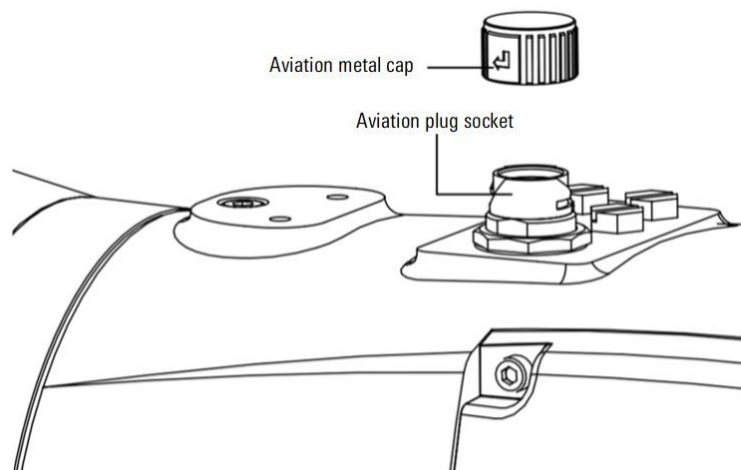

Figure 1-2 Step 1 diagram
- Step1. Please refer to Figure 1-2. Unscrew and remove the metal cover of the aviation insert in the opposite direction of the rotation direction indicated by the metal cover of the aviation insert.